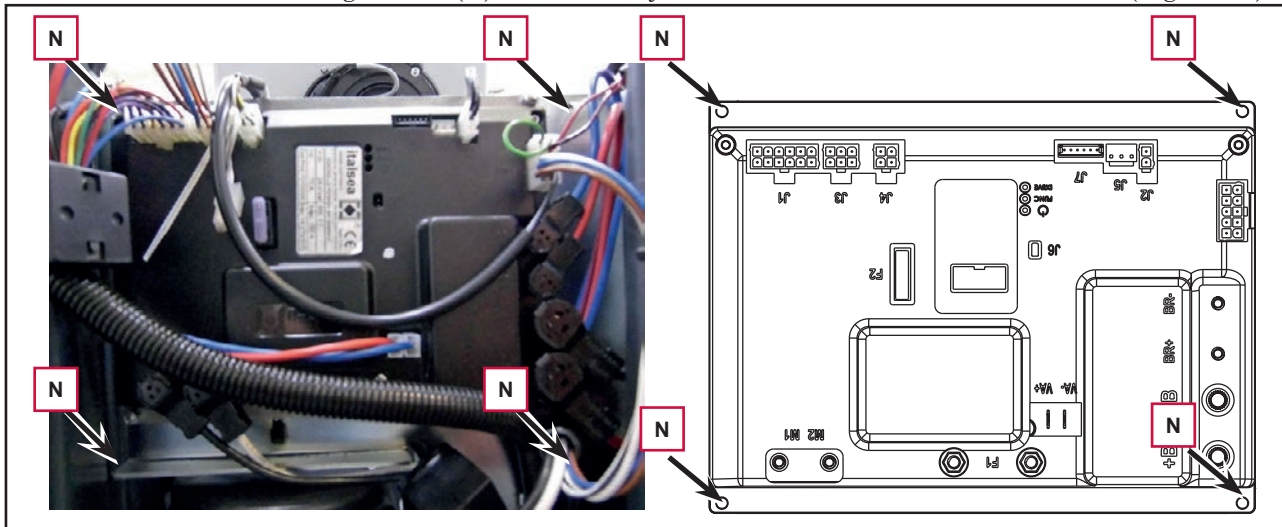

Figure 12
9. Unscrew the 4 retaining screws (N) and carefully remove the function electronic board (Figure 12).